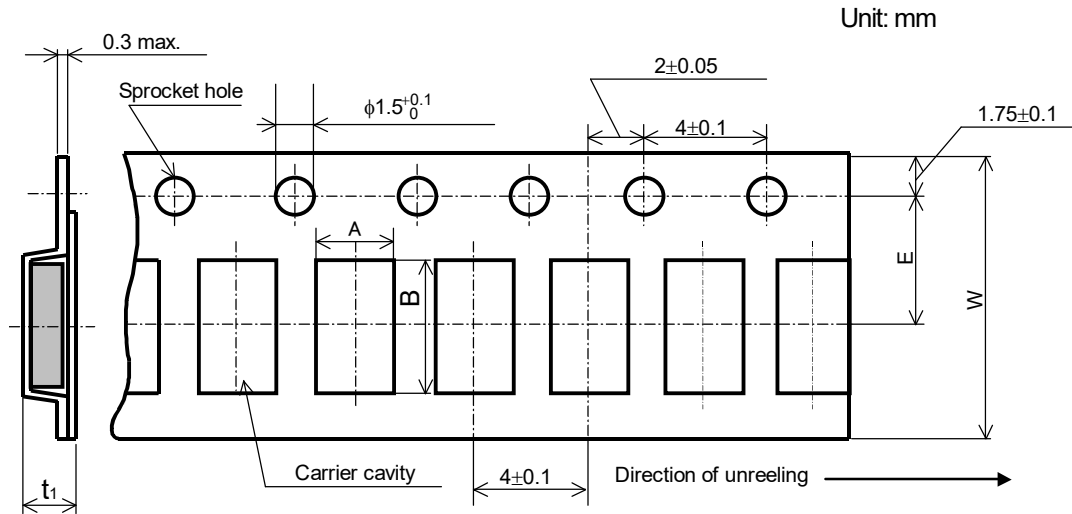

Figure-5
8.2.3 Embossed taping dimensions shall be in accordance with Figure-5 and Table-7.